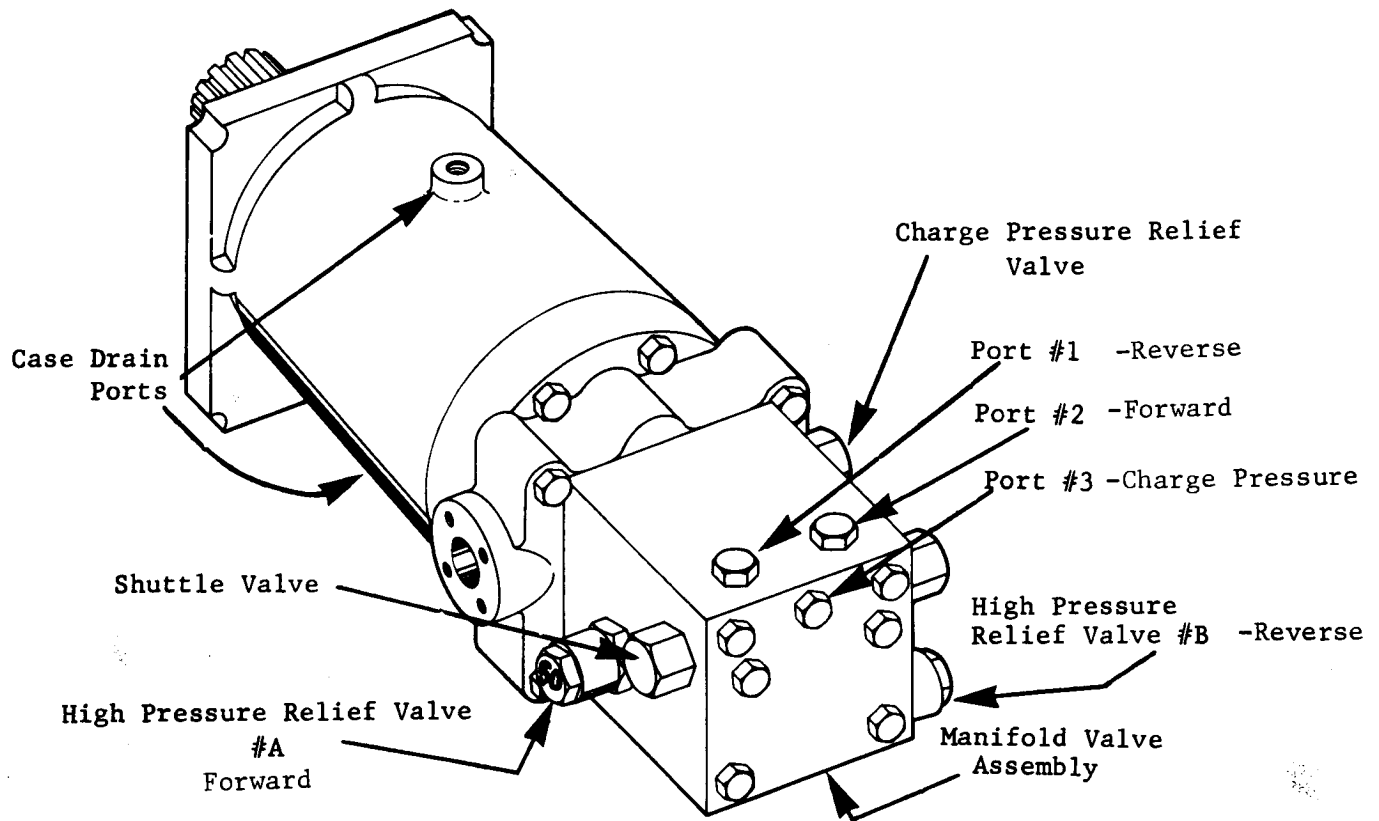

FIGURE 1
- (1) After the units have been installed, remove the threaded plug in the charge pressure port from the side of the main pump housing (See Figure 1). Install a 600 PSI gauge with a short section of hose to this port. The threaded plug may be either 1/8 NPT or 7/16-20 straight thread.
- (2) Check all fittings to be sure they are tight.
- (3) Loosen the charge pump line at the inlet to the charge pump (See Figure 1).
- (4) Fill the pump case through the case drain opening with an approved oil (See last page for oils).
- (5) Fill the reservoir with an approved oil. When oil appears at the loosened hose at the charge pump inlet, tighten the hose and continue filling the reservoir. Leave reservoir cap loose so air will escape.
4. Clean off area around pressure taps indicated in Figure 1 (Page 21) before removing plugs. Relieve pressure in system by removing hydraulic tank cap.
5. Remove plug from port number 2, Figure 1, (Page 21) and install a high pressure gauge and hose of at least 7500 psi capacity. NOTE: Hoses must be long enough to allow the gauges to be slipped under the chain and out to the outside of the scraper frame to allow readings to be taken at a safe distance from the elevator. Repeat on port number 1. Remove plug from port number 3 and attach a gauge of 600 psi capacity to this port.
5. Remove plug from port number 2, Figure 1, (page 21) and install a high pressure gauge and hose of at least 7500 psi capacity. NOTE: Hoses must be long enough to allow the gauges to be slipped under the chain out to the outside of the scraper frame to allow readings to be taken at a safe distance from the elevator. Repeat on port number 1. Remove plug from port number 3 and attach a gauge of 600 psi capacity to this port.
1. Charge pressure at the pump can be checked by installing a 600 psi gauge in the "Charge Pressure Port" shown in Figure 1 on Page 20. With the pump in NEUTRAL start the engine and accelerate to high free idle. The gauge should read 270 to 310 psi. When the pump is stroked the pressure gauge should read 150 - 190 psi.